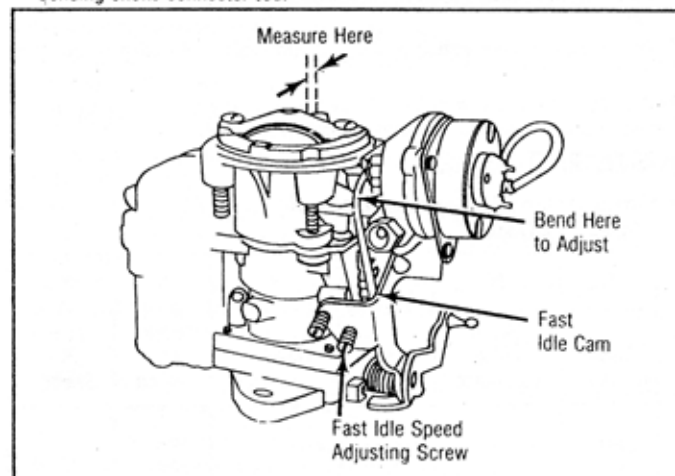

Fig. 10 Fast Idle Linkage Adjustment (AMC/Jeep 1972 and Later; All Others 1971 and Later)
1. Place fast idle speed screw on second step of fast idle cam. See Fig. 10.